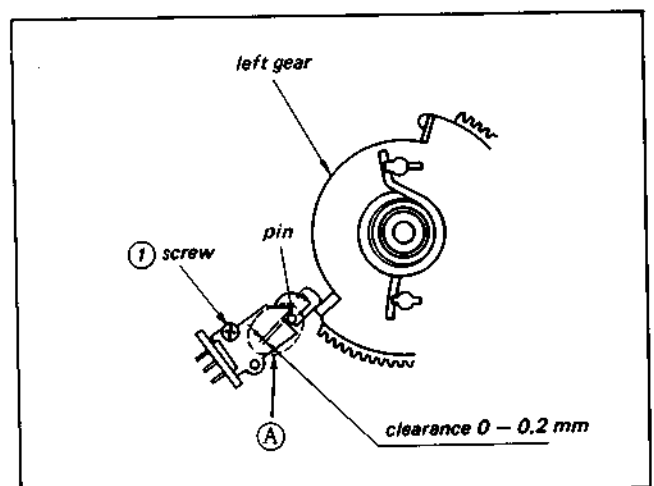

Fig. 3-37. C-OFF switch adjustment
- (i) Adjustment of C-OFF switch (See Fig. 3-37)